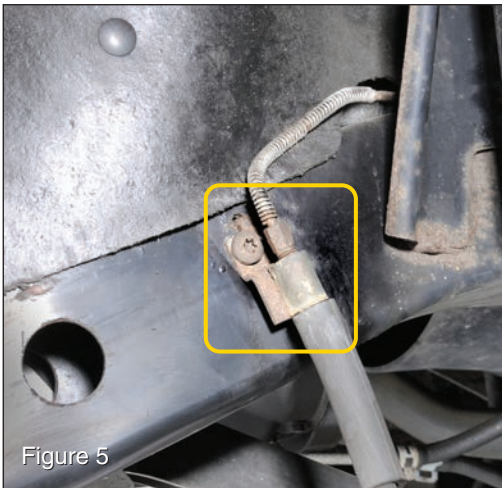

Figure 5
*Disconnect brake line bracket from frame using a T40 Torx socket. (see FIG 5 & 6)*